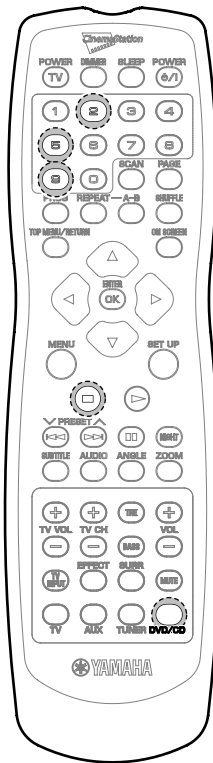

Fig. 2
2. Press the "DVD/CD", "⊕", "⊖" and "⊙" buttons on the remote control in that order. (Fig. 2)
2. リモコンの“DVD/CD”ボタンを押し、次に“⊕”、“⊖”、“⊙”ボタンを順番に押します。(Fig. 2)
1. Press the "DVD/CD" button and keep pressing the "⊕" button on the remote control. (Fig. 2)